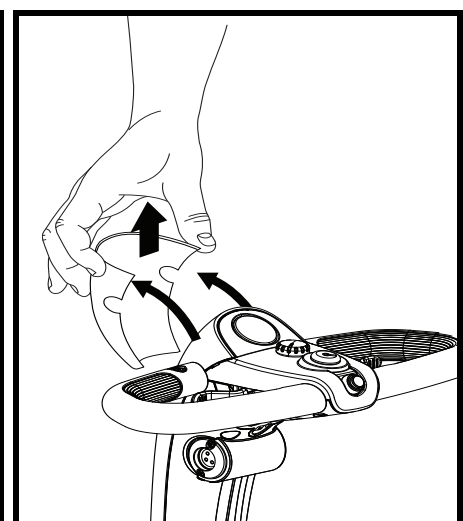

Figure 13. Tiller Console Visor
1. Gently pull the top of the visor away from the tiller console, then slowly lift it up and away from the tiller console. See figure 13.